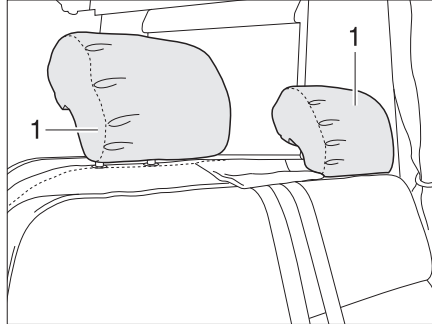

Fig. 21 Bench headrests (Variant 1)
- Push the headrests (Fig. 21,1) upwards or downwards by hand.